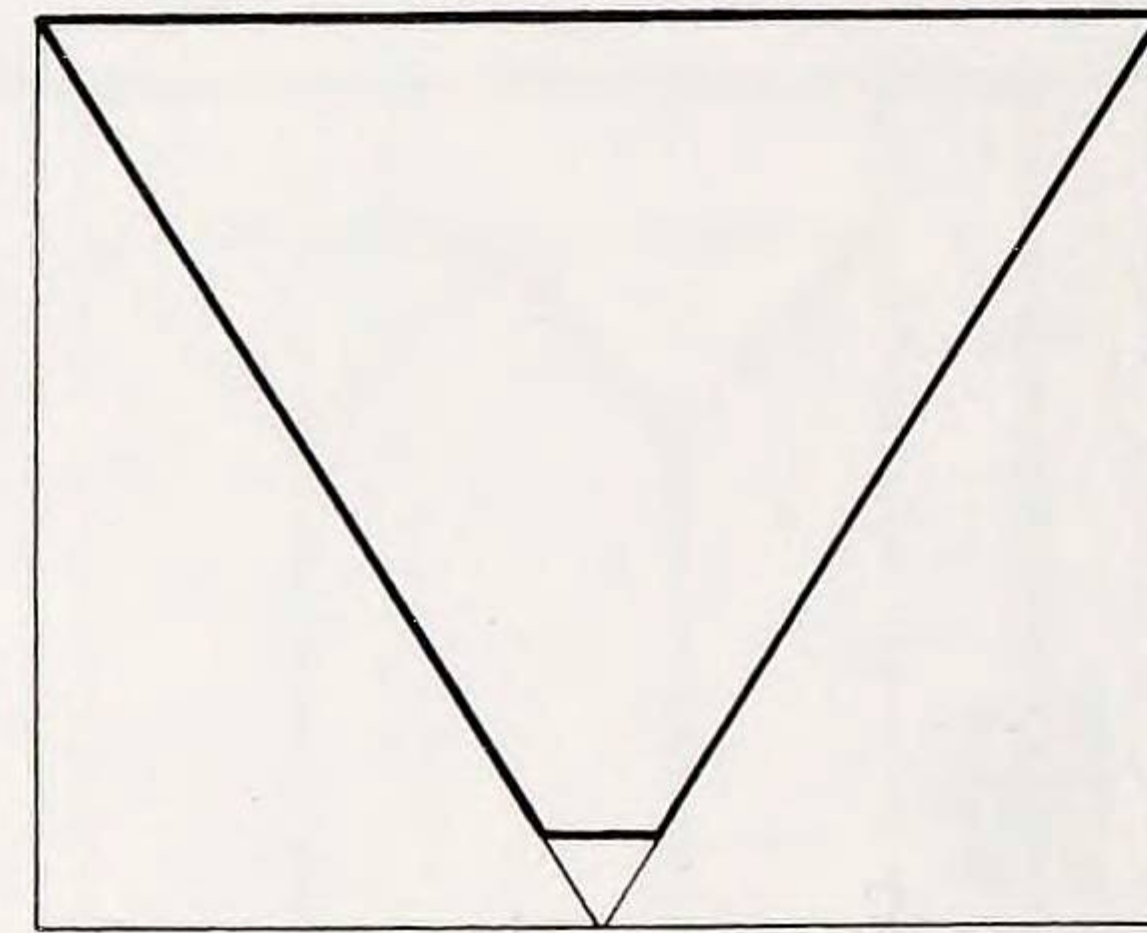

Fig. 2 Triangular top
2. Mark the two triangular tops and bottoms and make the joint to fix them to the back (Fig. 2). In this example a mitre has been used with a loose tongue, but a single or double lap joint would be as suitable. The top has been fitted to the front of the back, but it could be made as a slightly larger triangle and fitted on the top of the back itself.